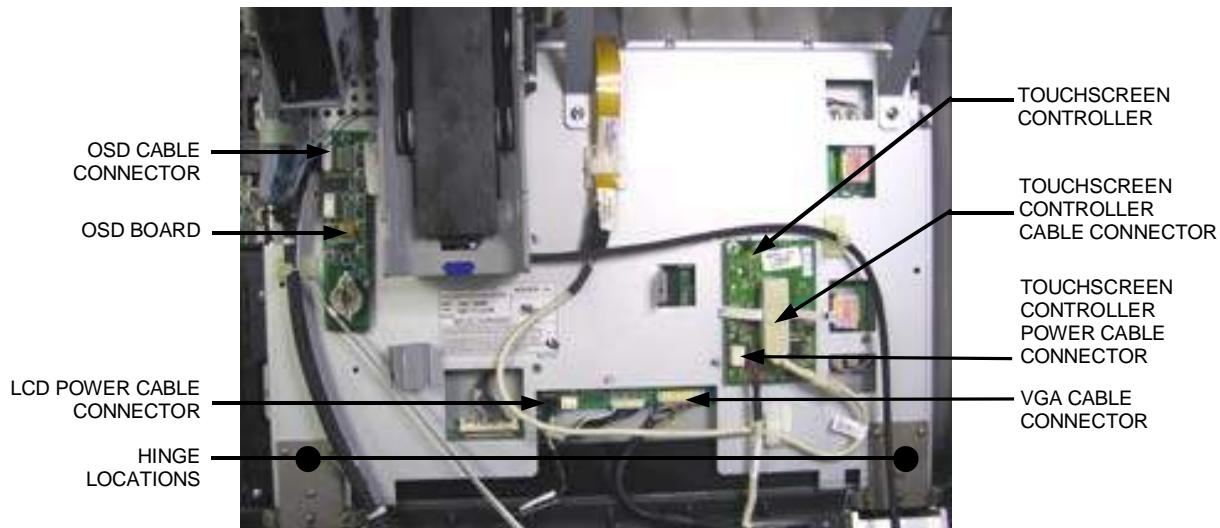

FIGURE 1 - MONITOR CONNECTIONS
3. Disconnect the LCD power cable connector, the VGA cable connector, and the touchscreen controller power cable connector (see Figure 1).
If you are replacing the monitor: Disconnect the OSD cable connector and then remove the OSD board from the Velcro securing it to the rear of the monitor (see Figure 1).